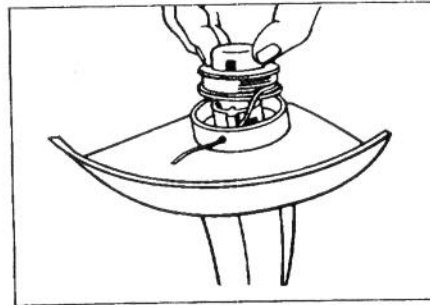

Figure 18
- D. The spool and the core are keyed. Be sure they are properly aligned when putting spool back on. Thread end of line through eyelet, place spool on keyed core and push in place until you hear it click. Pull line free from groove in spool. Unwind no more than three inches from spool (Fig. 18).